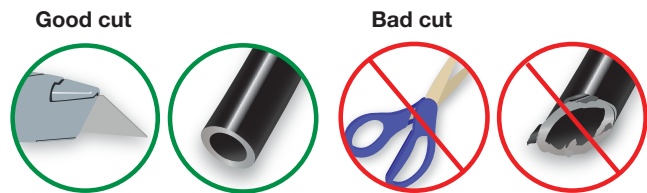

Fig. 18
2. Cut the air line in half. Make clean, square cuts with a razor blade or hose cutter (Fig. 18). Do not use scissors or wire cutters.